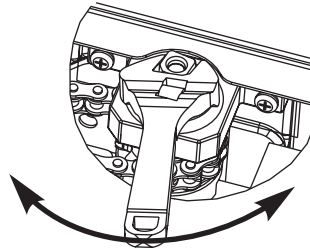

Figure 9
2. Using an adjustable wrench, rotate top pinion 45 degrees toward door hinge. You will feel resistance from spring. (Figure 9)